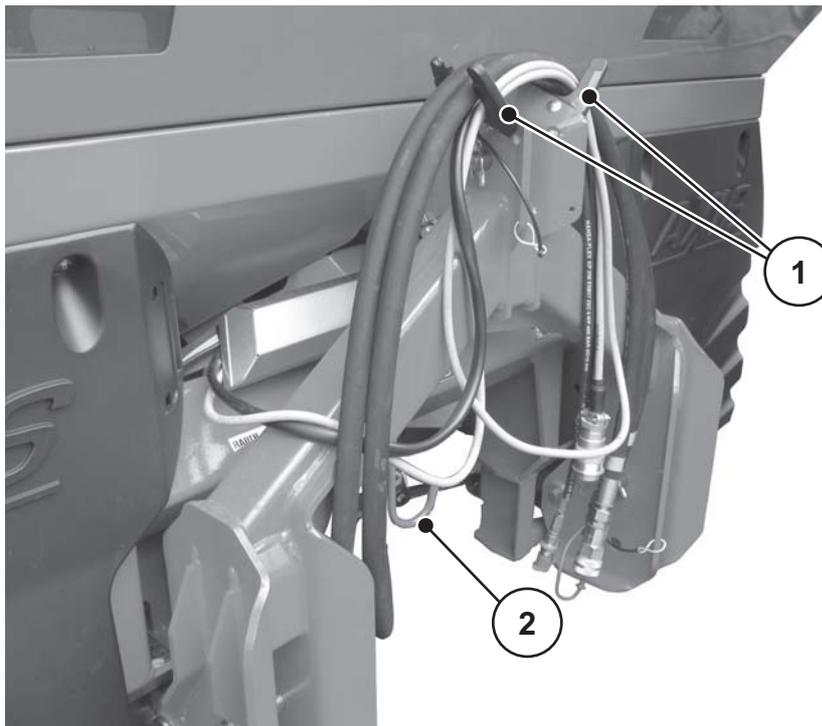

Figure 8.30: Storage of the cables and hydraulic hoses
- Please also refer to figure 8.30.